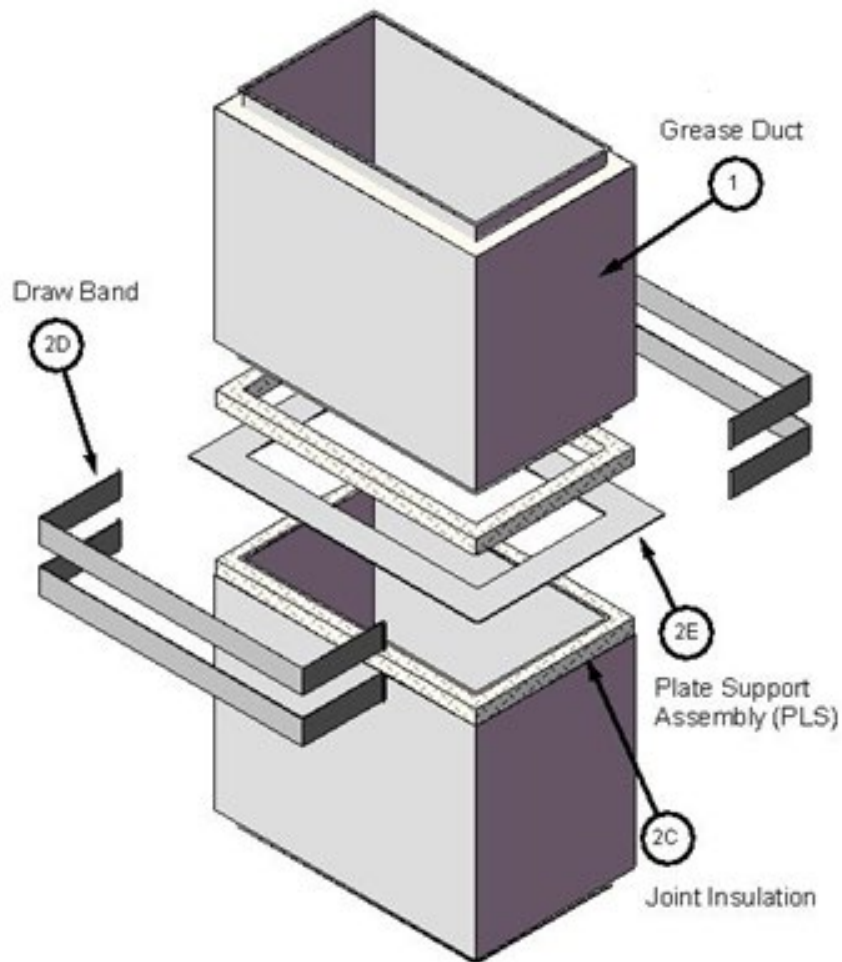

Figure 3. Plate Support Assembly (PLS)
B. VERTICAL SUPPORTS – Reference Figures 3, 4, and 5. Where the Pre-Fabricated Grease Duct (Item 1) is installed vertically, use the Plate Support Assembly (PLS), Flange Support Assembly (FSA), and/or Wall Brackets (WBR) as specified below.
- ii. PLATE SUPPORT ASSEMBLY (PLS) – Secure the Pre-Fabricated Grease Duct (Item 1) sections joined with the PLS (reference Figure 3) to the supporting construction (supplied by others). Ensure the PLS is supported continuously on all sides.